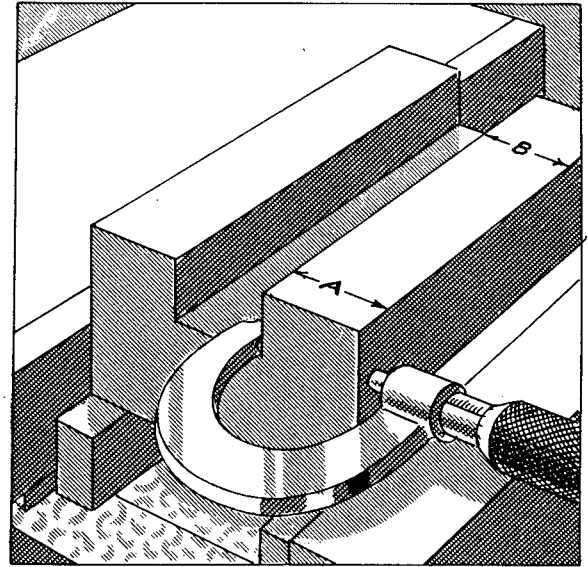

FIG. 460
4. Take a trial cut; then stop the machine and measure the distance A (Fig. 460) with a micrometer. The distance must be
5. Check the distance at the front A and at the back B of the slot (Fig. 460) in order to test the parallelism of the slot with the side of the work. If the slot is not parallel with the side of the work, proceed as follows.
6. Loosen slightly the nuts on the base of the vise; then tap the vise to the right if the distance A is the greater, or to the left if the distance B is the greater (Fig. 460).